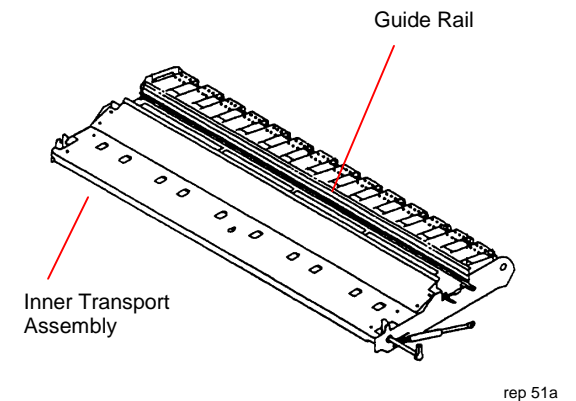

Figure 1. Removing the Rail
3. (Figure 1): Remove the four screws that secure the Transfer / Detack Corotron Guide Rail.